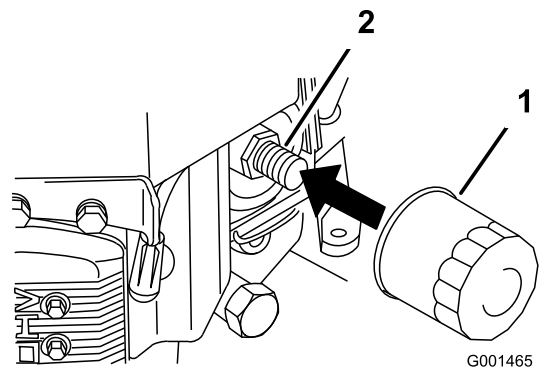

Figure 34
2. Remove the old filter (Figure 34).
3. Apply a thin coat of new oil to the rubber gasket on the replacement filter (Figure 34).
4. Install the replacement oil filter to the filter adapter, turn the oil filter clockwise until the rubber gasket contacts the filter adapter, then tighten the filter an additional 3/4 turn (Figure 34).